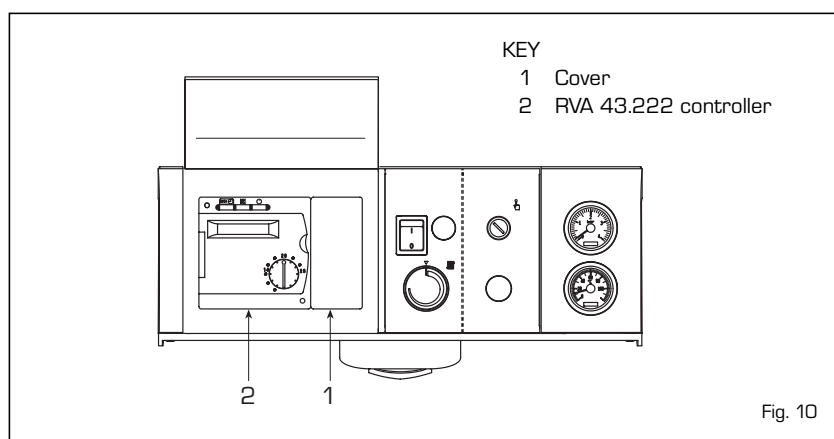

Fig. 10
2.8 ASSEMBLING THE RVA 43.222 CLIMAT CONTROLLER (fig. 10)